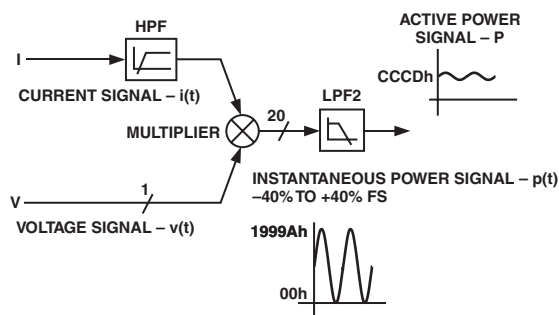

Figure 34. Active Power Signal Processing
Figure 34 shows the signal processing chain for the Active Power calculation in the ADE7759. As explained, the Active Power is calculated by low pass filtering the instantaneous power signal.
As mentioned in the last section, the discrete time sample period (T) for the accumulation register is  $1.1 \mu\text{s}$  ( $4/\text{CLKIN}$ ). With full-scale sinusoidal signals on the analog inputs, digital integrator turned off, and the Active Power Gain register set to 000h, the average word value from LPF2 is CCCD—see Figures 34 and 35. The maximum value that can be stored in the Active Energy